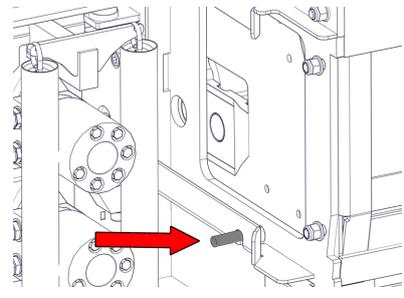

Figure 21 - Locking Bar Inserted
5. Insert locking bar through rotor housing and rotor (Figure 21).